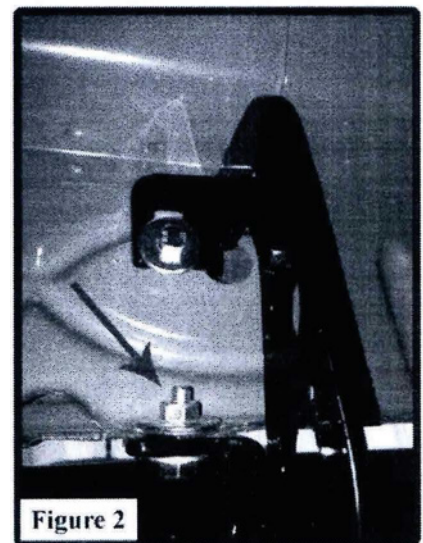

Figure 2
- STEP 4:** Align the steps with the mounting holes and starting from the front use 1 - M8-1.25 Bolt and 1 - Fender Washer for each mounting hole location and thread the bolts into the mounting holes. **NOTE:** Some vehicles require the use of an additional nut and washer for the lower portion of the mounting bracket as seen in Figure 2. The nuts and washers are supplied with the bolt kit.